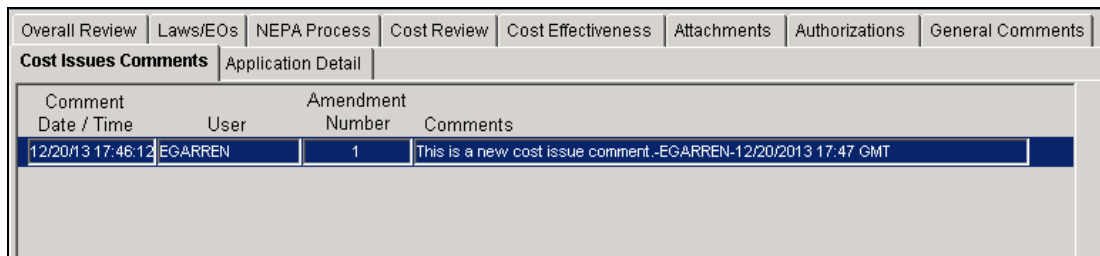

Figure 7-73: Cost Issues Comments Tab with Comments Added
16. Click the OK button. The comments are now displayed in the **Cost Issues Comments** tab (Figure 7-73).